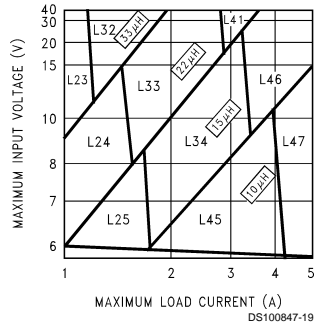
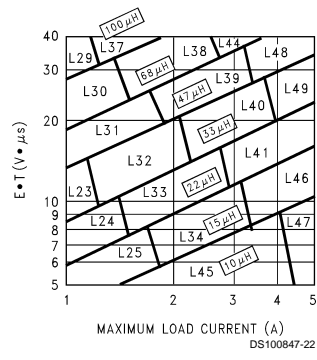

FIGURE 3. LM2679-3.3
FIGURE 6. LM2679-ADJ
Step 3: Determine the inductor required by using one of the four nomographs, *Figure 3* through *Figure 6*. Table 1 provides a specific manufacturer and part number for the inductor.
Step 5: Determine an input capacitor from Table 4 for fixed output voltage applications. Use Table 2 to find the specific capacitor type. For adjustable output circuits select a capacitor from Table 2 with a sufficient working voltage (WV) rating greater than $V_{in\ max}$, and an rms current rating greater than one-half the maximum load current (2 or more capacitors in parallel may be required).
Step 3: Use the nomograph for the 3.3V device, *Figure 3*. The intersection of the 16V horizontal line ($V_{in\ max}$) and the 4A vertical line ($I_{load\ max}$) indicates that L46, a 15 μ H inductor, is required.
Step 3: To use the nomograph for the adjustable device, Figure 6, requires a calculation of the inductor Volt•microsecond constant ($E \cdot T$ expressed in $V \cdot \mu\text{S}$) from the following formula:
Using Figure 6, the intersection of 27V• μS horizontally and the 3.5A vertical line (I_{load} max) indicates that L48, a 47 μH inductor, or L49, a 33 μH inductor could be used. Either inductor will be suitable, but for this example selecting the larger inductance will result in lower ripple current.
Important Note: When using the adjustable device in low voltage applications (less than 3V output), if the nomograph, Figure 6, selects an inductance of 22 μH or less, Table 6 does not provide an output capacitor solution. With these conditions the number of output capacitors required for stable operation becomes impractical. It is recommended to use either a 33 μH or 47 μH inductor and the output capacitors from Table 6.